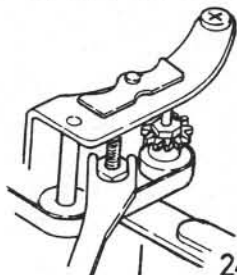

Fig. 22
1. Loosen the nut (left-handed screw) by using the tools. Refer to Fig. 22 on the next page.